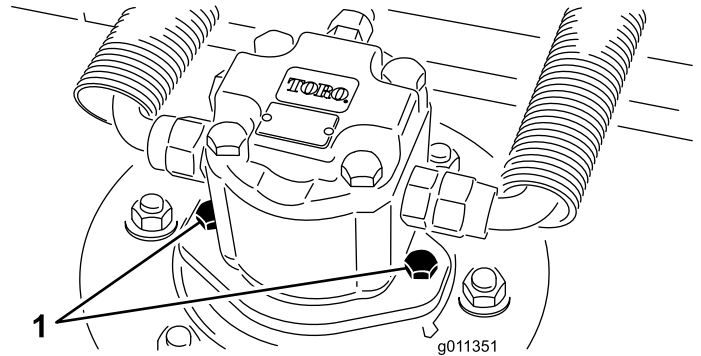

Figure 124
2. Disconnect and remove the hydraulic motor from the cutting unit (Figure 124). Cover the top of the spindle to prevent contamination.
3. Install the hydraulic motor to the cutting unit (Figure 124). Make sure that the O-ring is in position and not damaged.